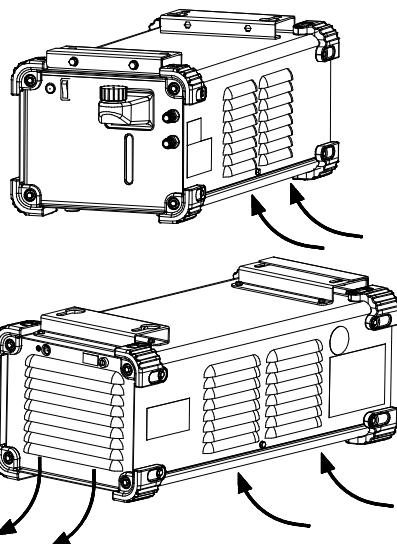

Figure 3.
- 9. Airflow Slots:** Enable proper circulation of air cooling (Figure 3).